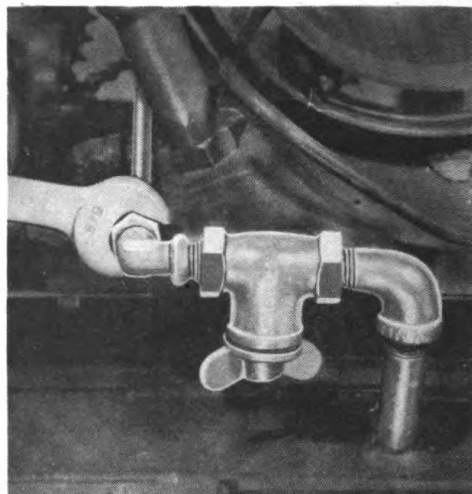

Fig 61. Breaking gasoline suction line at gasoline strainer.
- d. Break gasoline suction line at gasoline strainer as shown in figure 61.